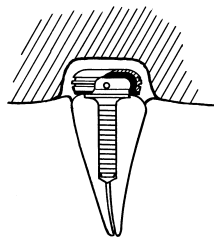

Fig. 6
3. Insert a LOCATOR Black Processing Cap Male (Zest order #8519 Package) into each cemented female, leaving the White Block-Out Spacer beneath it. (Fig. 6) The Black Processing Male will maintain the overdenture in the upper limit of its vertical resiliency during the processing procedure.